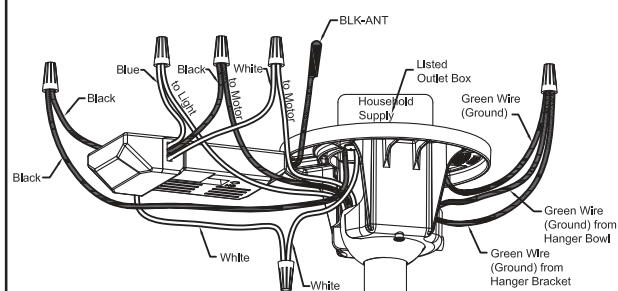

Figure 17
4. Connect green wires from hanger bracket and hanger ball to bare (ground) wire using wire connector supplied. Connect black wire from receiver unit marked "AC IN L" to black supply wire using wire connector supplied. Connect white wire from receiver unit marked "AC IN N" to white supply wire using wire connector supplied. Connect white wire from receiver unit marked "TO MOTOR N" to white wire from fan using wire connector supplied with receiver. Connect black wire from receiver unit marked "TO MOTOR L" to black wire from fan using wire connector supplied. Lastly, connect blue wire from receiver to the blue fan light wire using wire connector supplied. Position all connected wires and receiver antenna to allow installation of ceiling canopy (Figure 17).